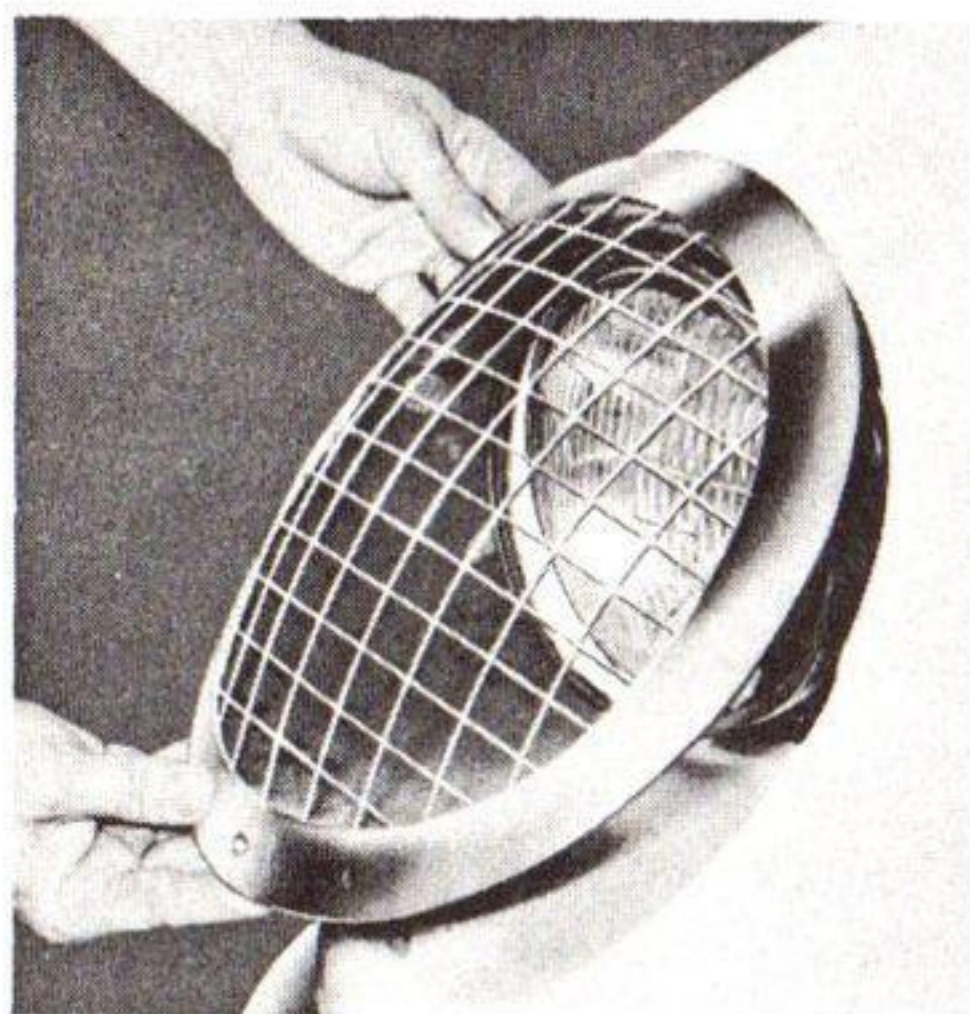

Fig. 75—Removing Rim, Screen and Housing
1. Remove single screw at bottom of chrome rim surrounding headlight opening (fig. 74) lift rim, screen, and housing assembly (fig. 75) and remove from opening.